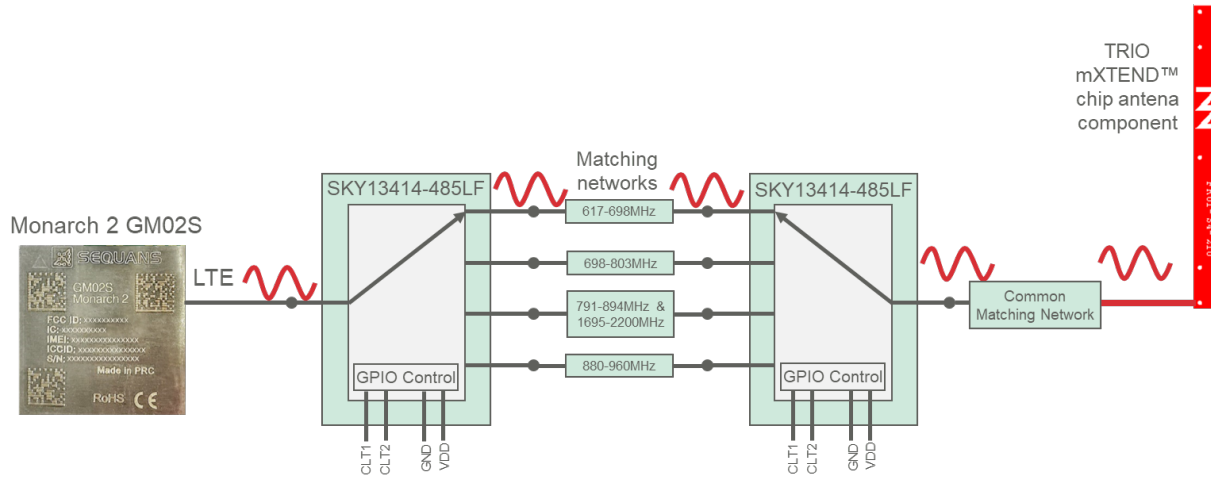

Figure 2 – Scheme for connecting TRIO mXTEND™ chip antenna component and Monarch 2 GM02S
A reconfigurable matching scheme combining the TRIO mXTEND™ chip antenna component, the Monarch 2 GM02S LTE Cat M/NB₁/NB₂ module and the SKY13414-485LF from Skyworks enables operation at LTE bands (617MHz up to 2200MHz) (Figure 2).
5. **Transmission line and RF Chip:** Design your transmission line connecting one of the RF switches output to your RF chip (see scheme connecting in Figure 2) so that its characteristic impedance is 50Ω. The output impedance of your RF chip must feature 50Ω as well. Locate your RF chip as close as possible to the matching network in order to reduce the losses introduced by the transmission line.